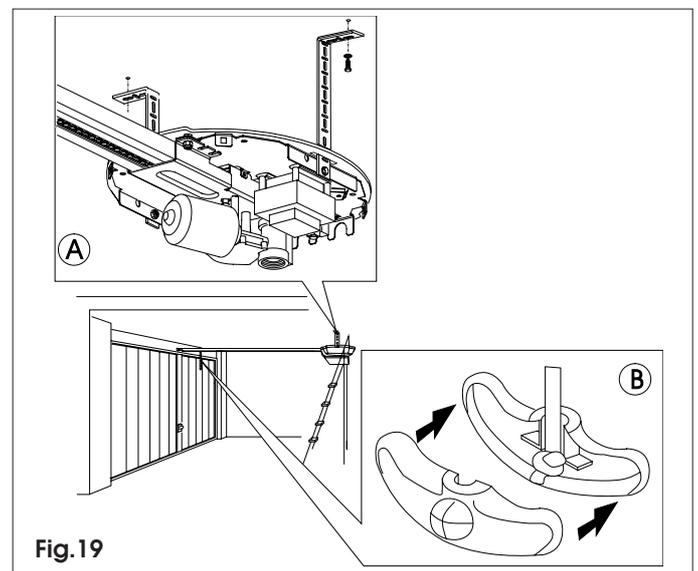

Fig. 19
7.12 Drill, insert the expansion plugs and, using screws and washers, secure the motor unit to the ceiling (fig. 19 ref. A).
7.14 Place the knot inside the knob - as shown in fig. 19 ref. B - and close it.